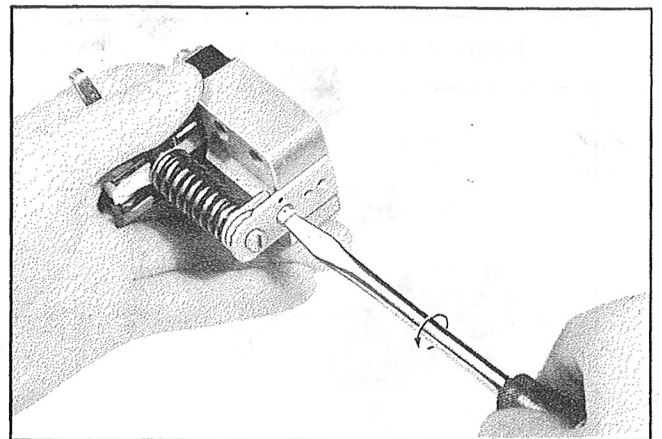
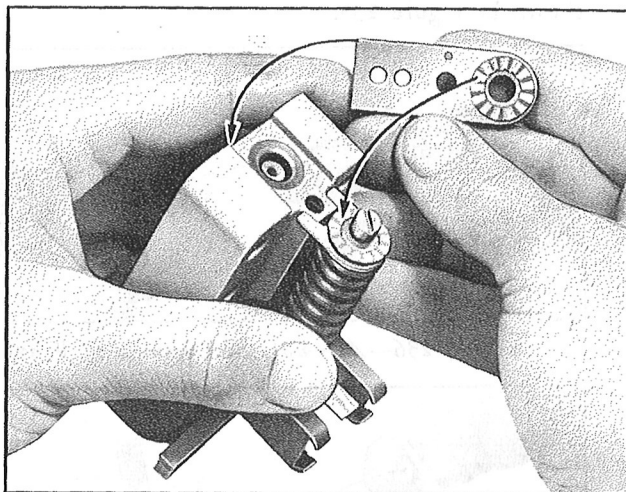

Figure 230—Removal of Spring Support Attaching Screw
Figure 242—Installation of Spring Support
*Step 1.*—Remove the attaching dowel screw from the governor spring support, as shown in Figure 230.
*Step 10.*—Place the governor spring support over the head of the adjusting screw so that the serrations on the support face the serrations of the adjusting screw. See Figure 242. Place the other end of the support on the governor body and attach with the special 8 x 32 dowel screw (as illustrated in Figure 230). Tighten the screw firmly and safety with .032" safetywire.